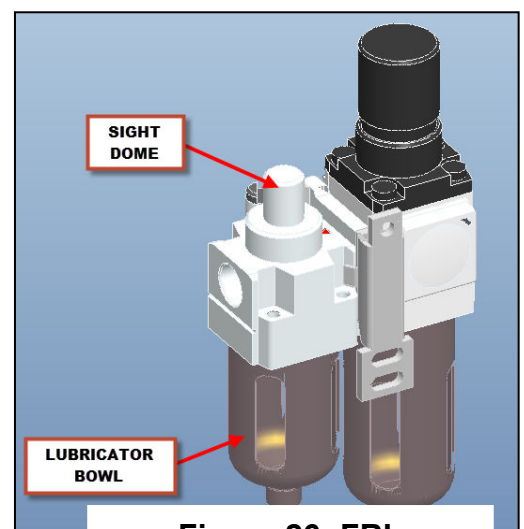

Figure 26: FRL
3. Determine the highest corner of the lift and adjust remaining towers to level the lift, front-to-back and side-to-side (See positions 1, 2, 3 and 4 in **Figure 26**). Use shims under tower base plate, as needed. Individual towers should also be leveled in both front-back and side-side directions.